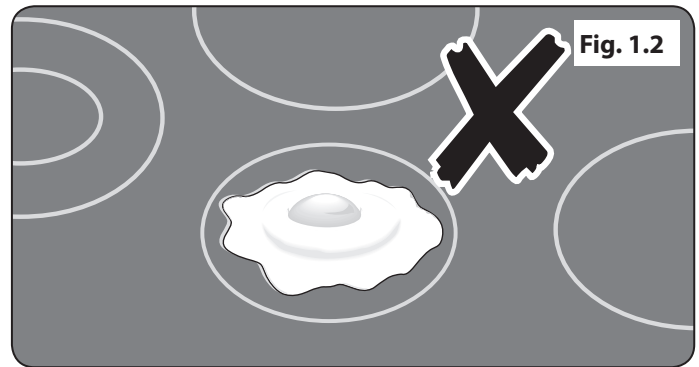

Fig. 1.2
- ⚠ **NEVER cook directly on the hob surface (Fig. 1.2).**